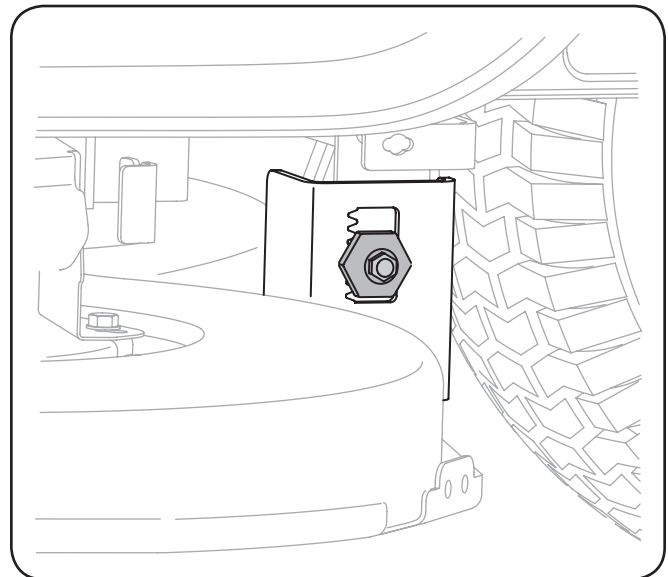

Figure 6-4
3. Locate the jam nut and lock nut on the front side of the stabilizer bracket. See Figure 6-4.
3. Loosen, but do NOT remove, the hex cap screw on the left deck hanger bracket. See Figure 6-4.